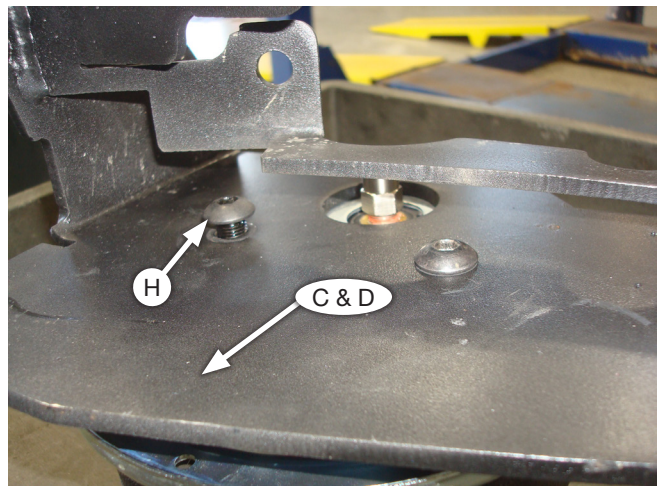

Fig. 7
2. Set the upper brackets (C & D) onto the air spring assemblies making sure the large hole is aligned with the fitting. Install the bracket using the 3/8" button head cap screws (H) and torque to no more than 20 lb.-ft. (27Nm) (Fig. 7).